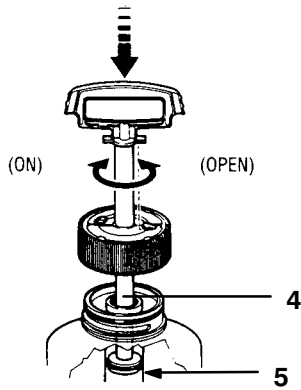

FIG. 3
- Should the pumping action become difficult, remove the pump from the tank, remove the pump piston (see figure 3, #4) from the pump cylinder and grease the O-ring of the pump piston (see figure 3, #5) with Vaseline.